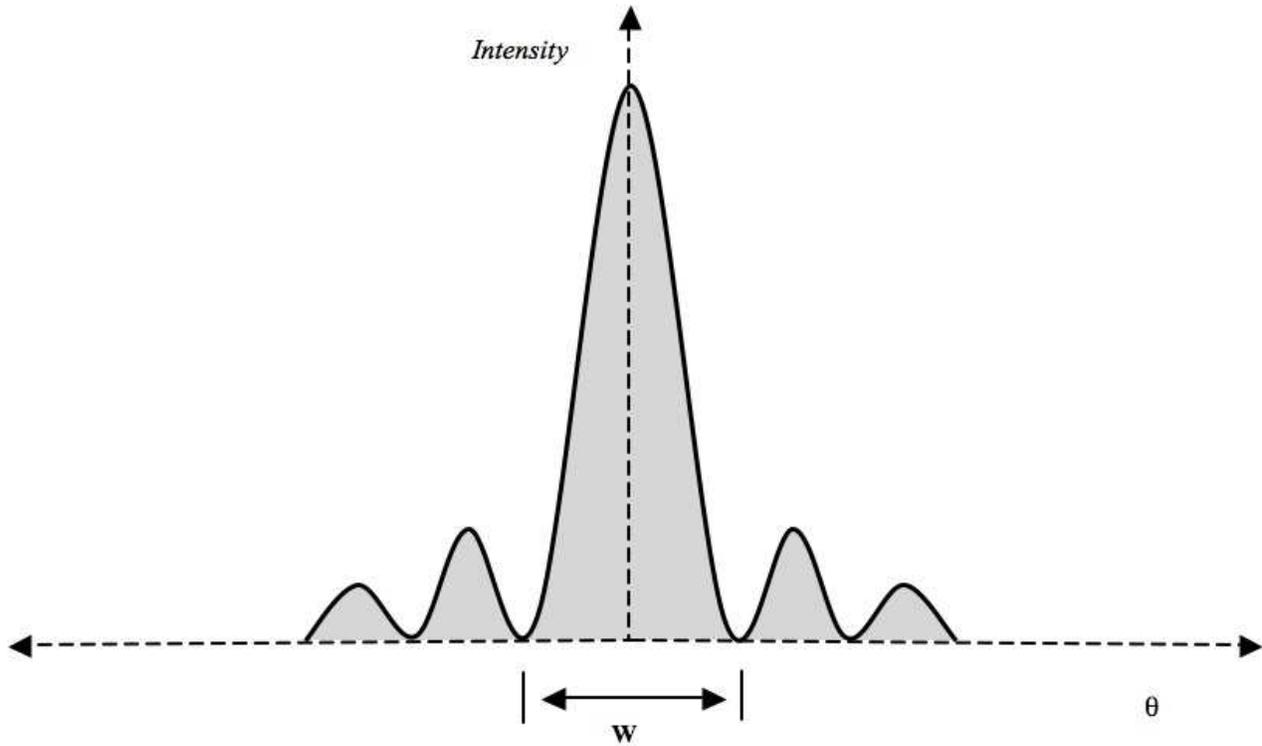

Figure 23.2: *Intensity vs. Angle* (Diffraction; Single-Slit)
Fig. 23.2 shows a plot of the *light intensity vs. angle* in the diffraction pattern. The slit width, D , is provided on the slide; $\delta D = 0.005$ mm. We use the small angle approximation to derive Eq. 23.1; this method requires angles in radians. The central bright envelope of the diffraction pattern subtends an angle of 2ϕ , where:
and λ is the wavelength. The angle will not be measured directly. ϕ can be determined by first measuring the distance from the slit to the screen (L), then measuring the width of the central envelope, marked as W in Fig. 23.2.